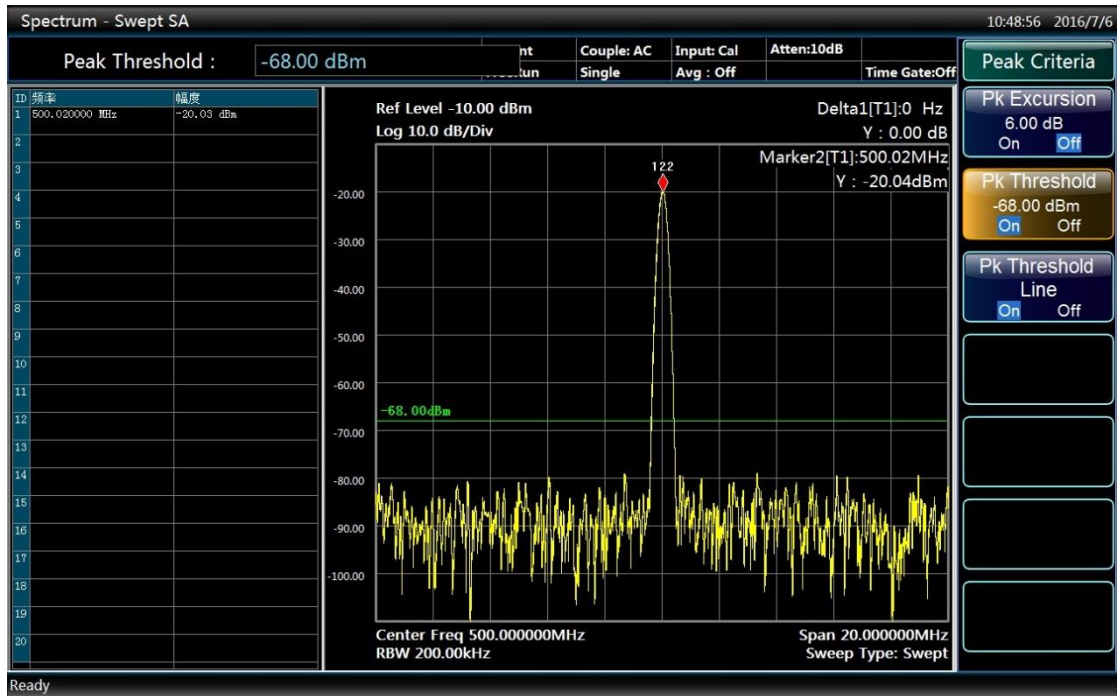

Fig. 3.6 The interface of opening peak threshold
- Press **【Peak Search】** to open the peak search soft menu; press [More1/2], [Peak Criteria>>] and [Pk Threshold ON OFF] to set the peak threshold as -68 dBm as shown in Fig. 3.6;